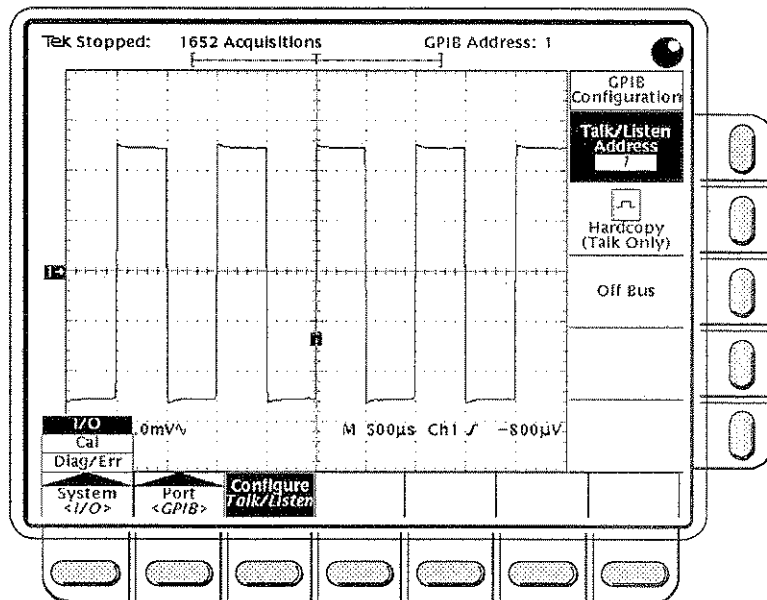

Figure 3-16: Utility Menu – System I/O
- Step 2:** Select **I/O** from the **System** main menu pop-up (see Figure 3-16).